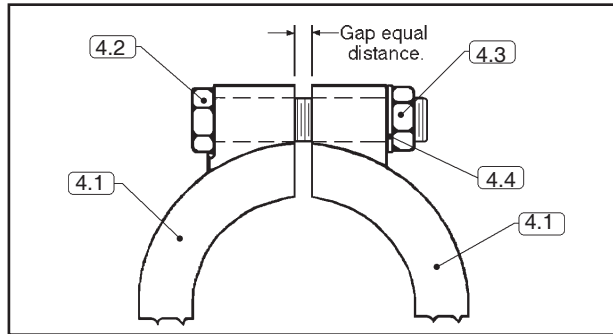

Figure 3 : Clamp Orientation
4. Lubricate I.D. of stem seals (9). Insert the upper end of the stem (3,10) through the bonnet (2) and through both stem seal rings (9).
5. Set bonnet (2) with inserted plug/stem onto the flange of the body (1). Lower plug/stem until it touches the body seat. Press down firmly on the stem (3, 10) upper end.
6. Re-position clamps (4.1), bolts (4.2), washers (4.4), and nuts (4.3) around the body (1) to-bonnet (2) joint. Rotate clamp nuts (4.3) a few revolutions in an alternating pattern to hold clamp assembly. Align matchmarks. Position both hands around the outside of the Tri-Clamp®, push the clamp towards the valve's center. Ensure proper alignment of body (1)
with bonnet (2) by checking OD of flanges. Finger-tighten clamp nuts (4.3). **NOTE:** *Gap between clamp (4.1) halves should be equal in size.* See Figure 3.
8. Reinstall actuator assembly (AA) to body assembly (BA) per Section V.G. or V.H.